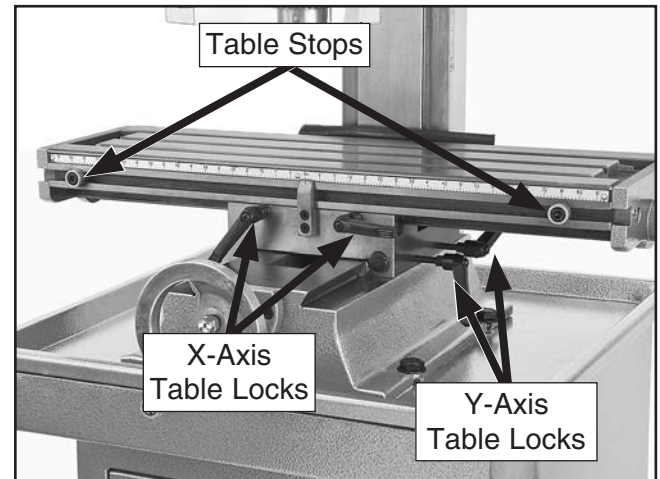

Figure 25. X- and Y-axis table travel locks.
1. Loosen both X-axis table locks shown in **Figure 25**.
The saddle does not have limit stops. To move the table along the Y-axis, loosen the Y-axis table locks shown in **Figure 25**, then use the handwheel in front of the table in the same manner as the X-axis handwheel.